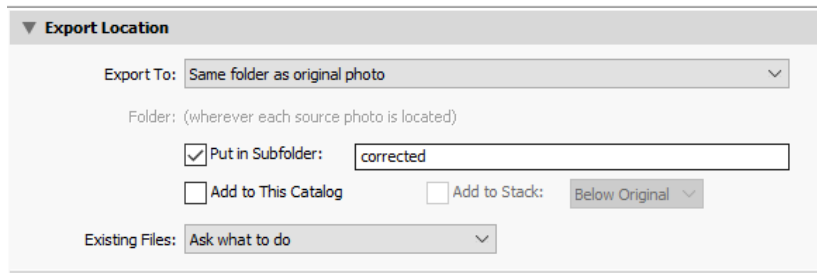

Figure 14. Export location will be a folder labeled 'corrected' within the site folder.
10. Check the 'Put in Subfolder' box and label it 'corrected' (Figure 14). Leave all other selections as default. This will create a corrected version of the image and put it in a folder named 'corrected' within the site folder. The original dark images will remain in the site folder. You can monitor the export progress in the upper left hand corner.